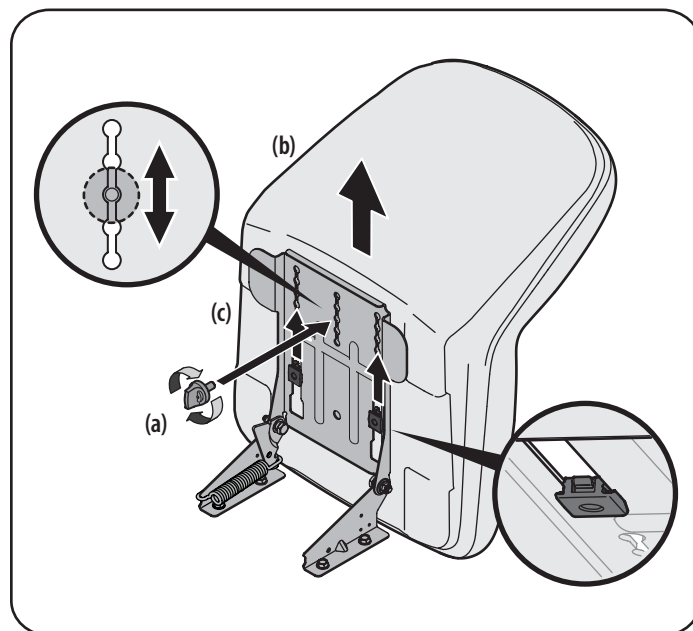

Figure 6
3. Slide the seat (b) rearward in the seat pivot bracket (c), lining up the center rear slot in the seat pivot bracket (c) with the remaining hole in the seat (b) base. See Figure 6.
NOTE: Be certain the two seat tabs engage the seat pivot bracket as shown in the bottom right inset of Figure 6.
4. Select the desired position for the seat (b), and secure with the adjustment knob (a) removed in Step 1. See Figure 6.
5. To adjust the position of the seat, remove the adjustment knob (a) on the bottom of the seat (b). Slide the seat (b) forward or backward as desired. Reinstall the adjustment knob (a). See Figure 6.